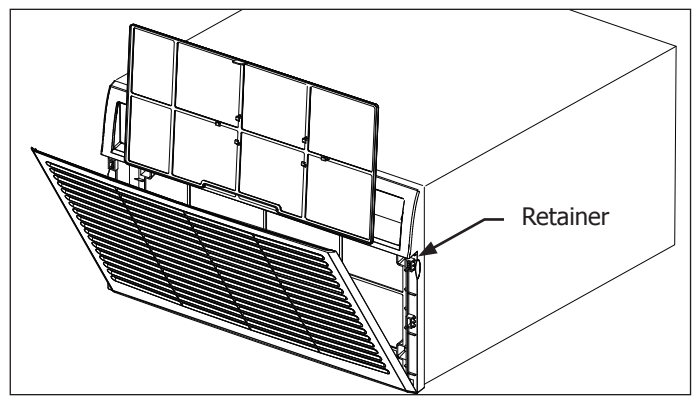

Figure 4-1.
6. Extract the four screws securing the front panel to the unit frame. (See Figure 4-1)